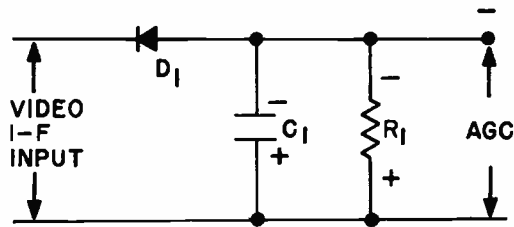

Fig. 10. A simple agc system.
A simple agc circuit that uses the peaks of the sync pulses is shown in Fig. 10. The circuit consists of a diode rectifier with an R-C filter that has a comparatively long time constant. By this we mean that the time constant of the R-C filter is considerably longer than the period between sync pulses.
Since synchronization is extremely important a simple agc system like the one shown in Fig. 10 is usually made slow-acting by giving it a longtime constant. Such a system will compensate for signal changes like those produced by switching stations, but cannot take care of rapid fluctuations, and of course, it is far from satisfactory when noise is present.
In a circuit such as the one shown in Fig. 10, the dc voltage is applied to the i-f amplifier stages through appropriate R-C decoupling networks to prevent coupling between the stages. The signal may also be applied to the rf stage ahead of the converter, in which case some arrangement is generally used so that the bias applied to the rf stage is somewhat less than the bias applied to the i-f stages. There is usually some control on the agc network to regulate the amount of agc voltage used.
Although the simple agc circuit shown in Fig. 10 is far from satisfactory it has been used in some low-cost TV receivers. Therefore, you should understand the circuit and how it works, and also understand its limitations. Fortunately, most TV receivers use a slightly more complex agc system known as a keyed agc system. This system is far superior to the simple agc system.
- (m) Should the simple agc circuit in Fig. 10 have a short time constant or a long time constant?